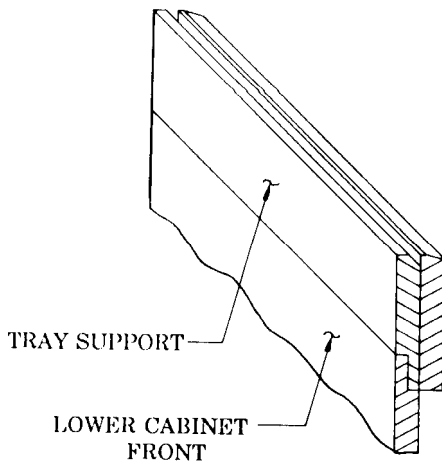
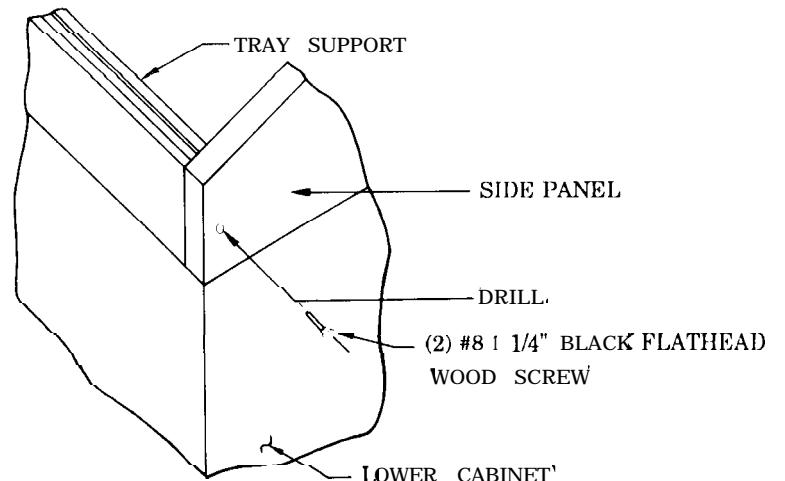

FIGURE 6
FIGURE 7
(See Figure 6) The tray support rests on the front panel of the lower cabinet (See Figure 7). Holding the tray support in place and flush with the front, drill (2) 3/32" pilot holes into the side of tray support using the counter sunk hole as a template. Drive (2) screws to attach pieces together. We recommend driving screws by hand to avoid splitting boards.